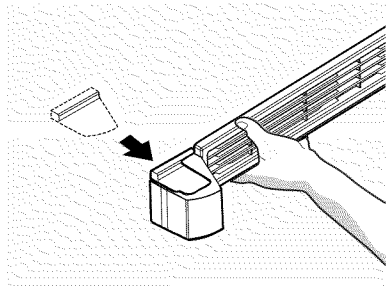

Figure 1
1. The toe grille is packaged with the covers installed or the covers are provided in the literature package. If the covers are provided in the literature package, install toe grille cover onto toe grille slot on side of toe grille corresponding with door handle. See Figure 1.